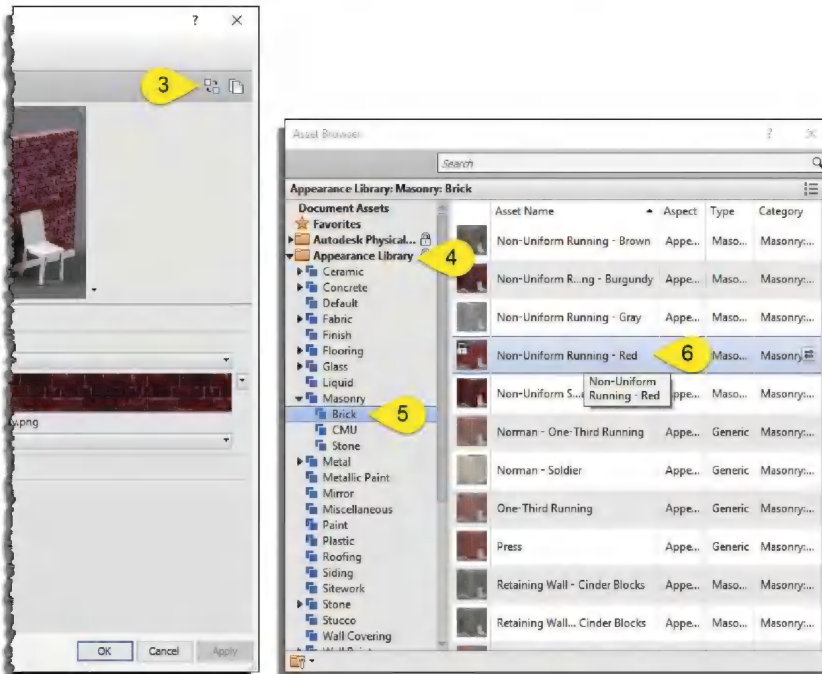

FIGURE 13-2.7 Revit's Asset Library
14. Click on the **Replace Asset** icon (Step 1 in Figure 13-2.7).
15. Scroll down in the *Masonry* section and double-click **Non-uniform Running - Red**, and then click the red **X** to close the *Asset Browser* (Figure 13-2.7).